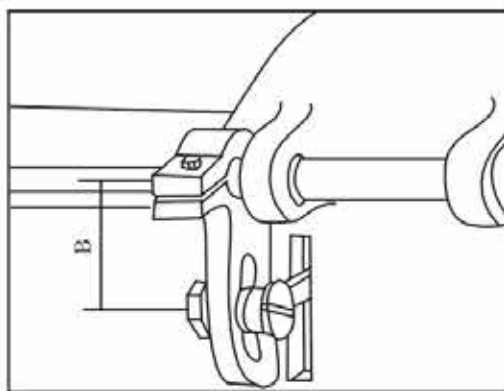

图13
## 二十九、摆压脚、压脚前后防线间隙的调节（图13）
29. Adjusting of the front and back direction space of swing presser and presser (shown in fig 13)